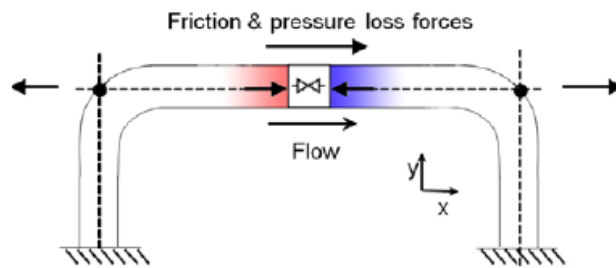

Figure 1: Schematic of the Difference force type
- **Difference** - Difference forces are defined as the unbalanced force between two nodes, or computation stations. These nodes should be located at 90 degree direction changes. There may be one or several junctions between the elbows so long as the flow does not branch between the nodes and all components are axially aligned. An example of this is the pneumatic loading between two elbows along the length of a pipe. See Figure 1 below.